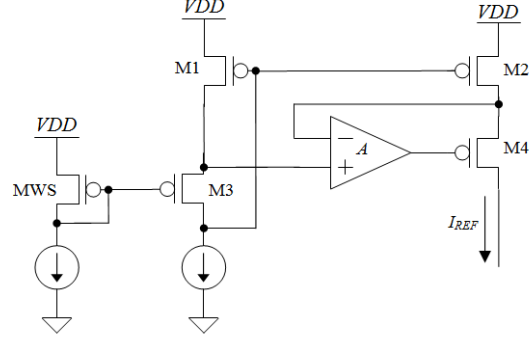

Figure 2
**Problem 2:** Consider the PMOS-version of the regulated drain current mirror shown in Fig 2.